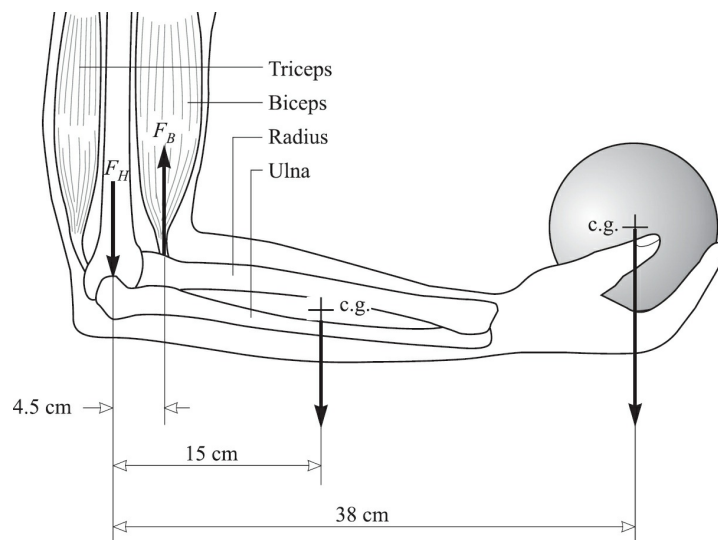

Fig. 5-16
5.25 [II] The arm drawn in Fig. 5-16 supports a 4.0-kg sphere. The mass of the hand and forearm together is 3.0 kg and its weight acts at a point 15 cm from the elbow. Assuming all the forces are vertical, determine the force exerted by the biceps muscle.